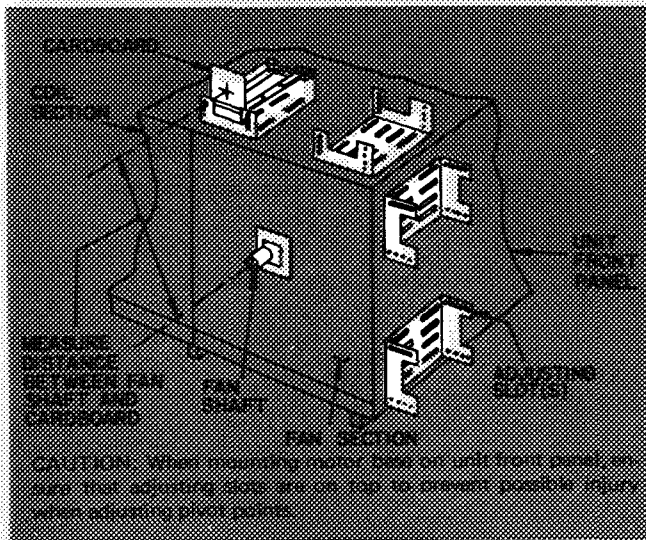
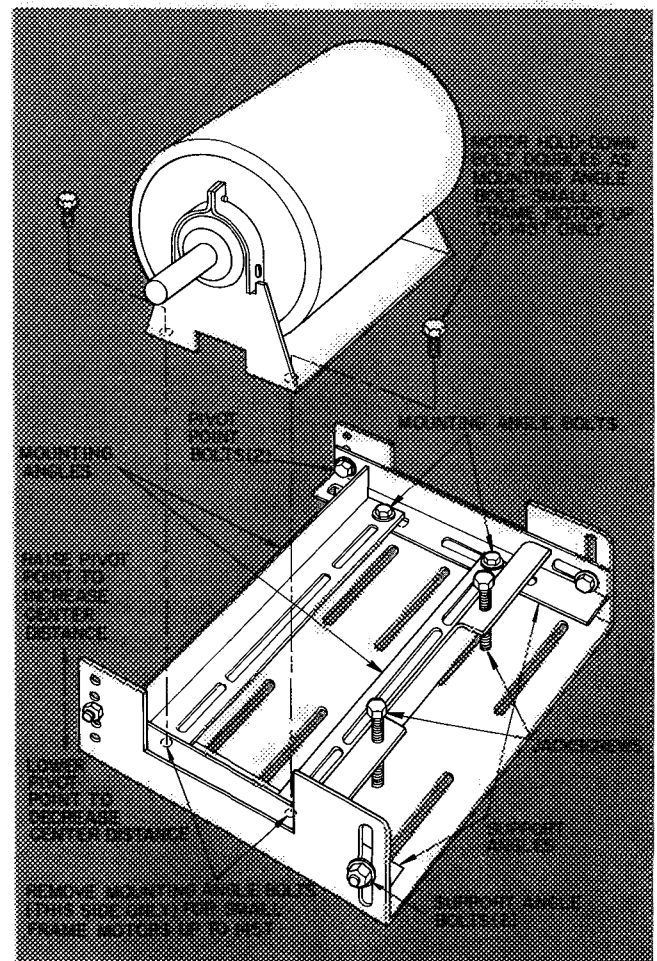

Fig. 24 - Location of Adjusting Slots
Fig. 25 - Small Frame Motor Mounting
- b. Determine specified motor position and bolt motor base to fan section with hardware from accessory drive package per Fig. 24. Do not tighten until sheaves are aligned.
- (1) Locate base adjusting slots in respect to fan shaft as shown.
- (2) Place cardboard pattern on motor base.
- (3) Check center-to-center distance between pattern and fan shaft with center-to-center distance marked on drive package carton. Required center-to-center distance should be obtained with support angle bolts approximately centered in adjusting slots. This will permit final adjustment for belt installation and proper tension.
- (4) If center-to-center distance is too short, adjust pivot point upward; if too long, adjust pivot point downward. Refer to Fig. 25.
2. Place motor on motor base with maximum shaft overhang and install hardware from accessory drive package; tighten securely. Position small frame motors up to 145 T per Fig. 25. Note that hold-down bolts for small frame motors will be smaller in diameter than mounting angle bolts supplied in motor base, Fig. 25.
3. Locate mounting angles so motor shaft will line up with center of cutout in motor base. Make certain mounting angles are perpendicular to support angles and secure mounting angle and motor hold-down bolts shown in Fig. 25.
9. Loosen two support angle bolts per Fig. 24 and adjust belt tension by turning jackscrews. Follow step 7 of Motor and Drive (unit